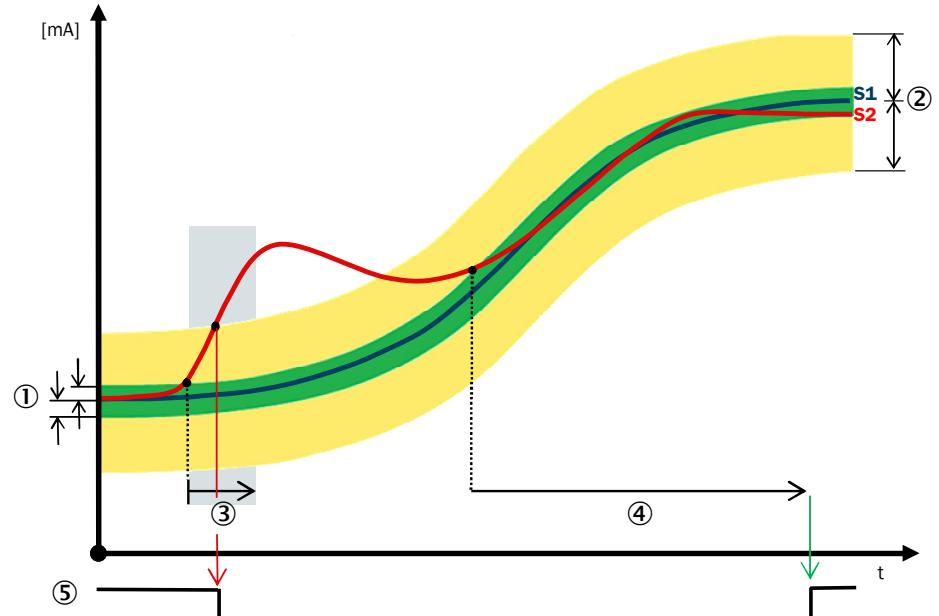

Figure 323: Exceeding the limited permissible increased difference
- The measured values from sensor AI1 and sensor AI2 deviate from one another by **more than the Limited permissible increased difference** (figure 323).